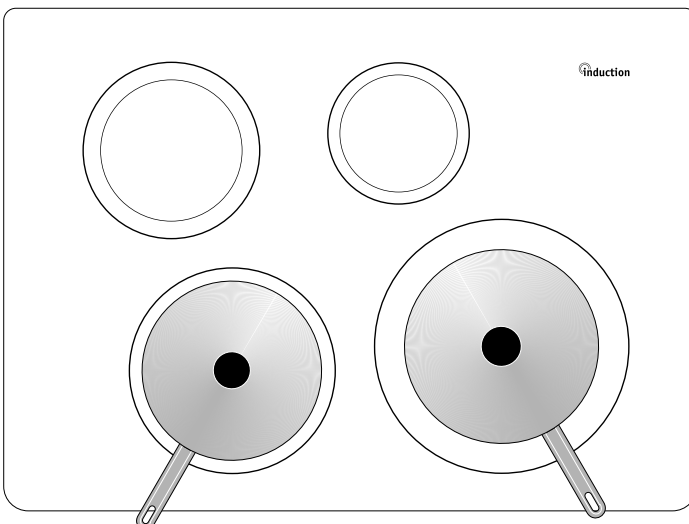

Fig. 3
- To maintain power levels for two food items heating at the same time, place the cookware using **opposite sides** of the cooktop. The cooktop sensors will use both induction inverters and any power level reduction is avoided (See Fig. 3).